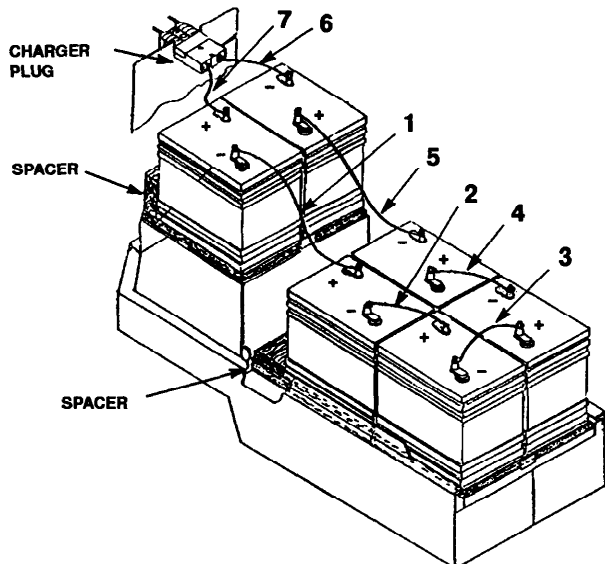

FIG. 4.
3. Next remove (2) wing nuts, using a screwdriver or pliers, and hinge open rear control housing as shown. (Figure 4)
- Secure batteries with spacers if you have excess battery space. Position spacers as shown. Batteries must be secure. (Figure 4)